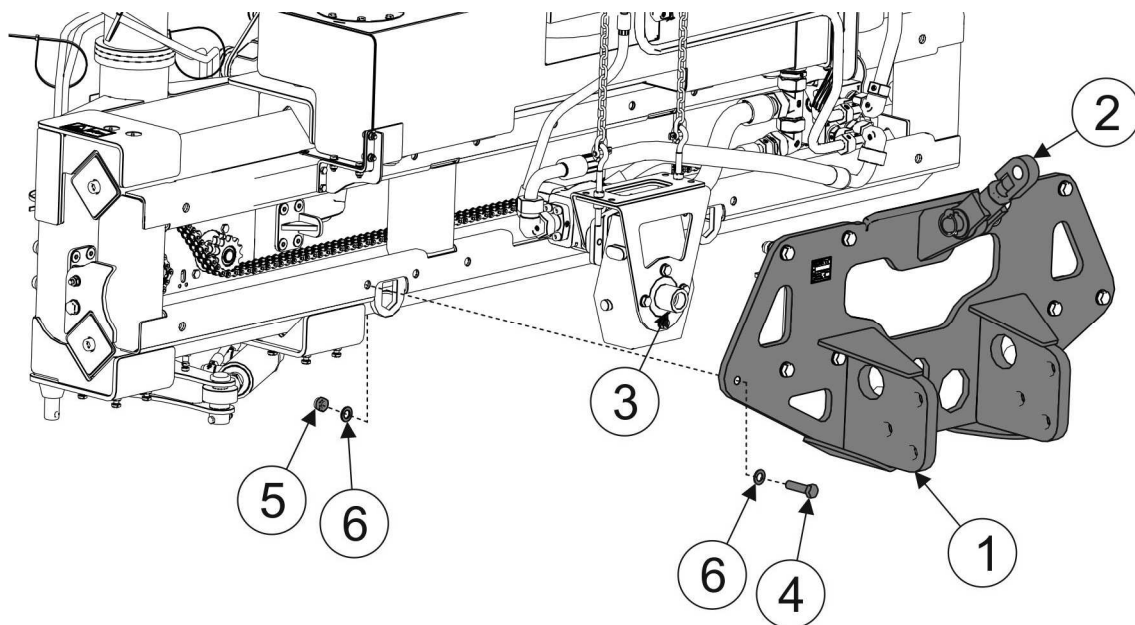

FIG. 3.2 Linkage
(1) - bottom brackets of the three-point linkage adapter plate; (2) - a central link; (3) - multiplier gear box connection to the tractor; (4) - bolt; (5) - nut; (6) - washers.
The main component of the multifunction arm linkage (Figure 3.2) is the adapter plate constructed of two brackets (1) and the central link (2) for connection of the tractor front three point linkage. Multiplier gear box connection (3) is used to connect the tractor front PTO with the multiplier gear box.